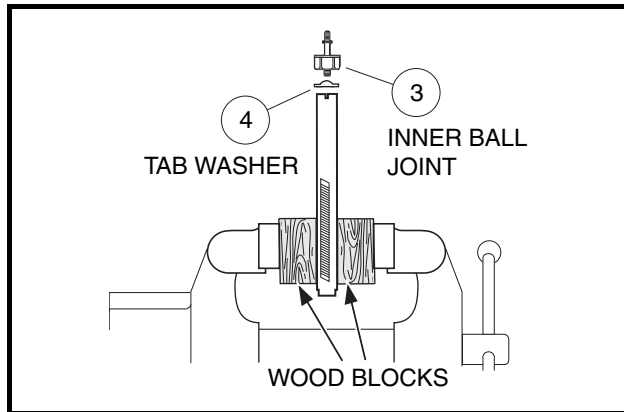

Figure 7-12 Secure Rack in Vise
13. If the inner ball joint (3) is excessively worn, remove the ball joint and tab washer (4) from the rack (Figure 7-12, Page 7-11).
- 13.1. Secure the rack in a vise using wood blocks between the rack and the jaws of the vise to protect the rack from damage (Figure 7-12, Page 7-11).
1. Install a new tab washer (4) and an inner ball joint (3) (**Figure 7-12, Page 7-11**). Install the ball joint onto the rack by securing the rack in a vise using wood blocks between the rack and the jaws of the vise to protect the rack from damage. Tighten the ball joint to 60 ft-lb (81 N·m).
2. Bend the edges of the tab washer (4) up against the ball joint (3) (**Figure 7-12, Page 7-11**).